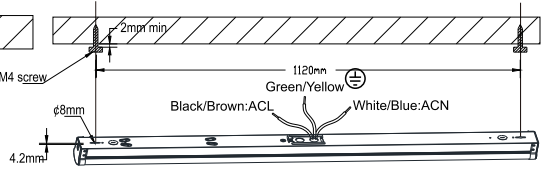

Figure 4
2. Connecting the wires first, set the  $\phi 8\text{mm}$  hole on the screw. (Figure 4)